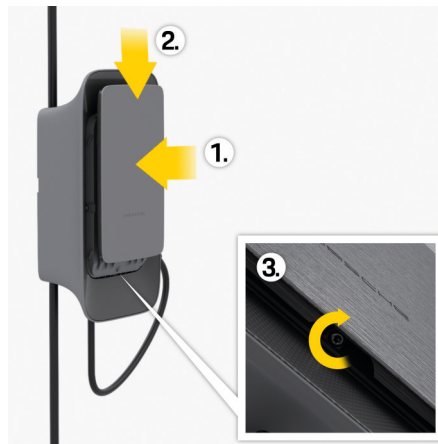

Fig. 18: Fastening the design front
1. Loosen screw on lower edge of design front **3** ▷ (Fig. 18).